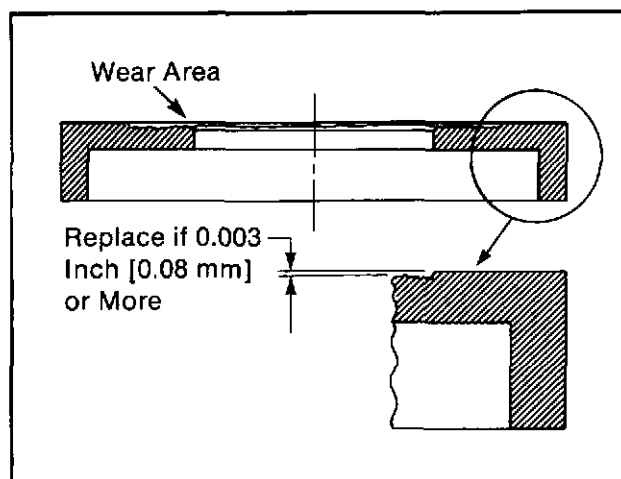

Fig. 2-13. Injector spring retainer thickness
- b. Replace the spring retainer if it is worn more than 0.003 inch [0.076 mm] deep, Fig. 2-13.